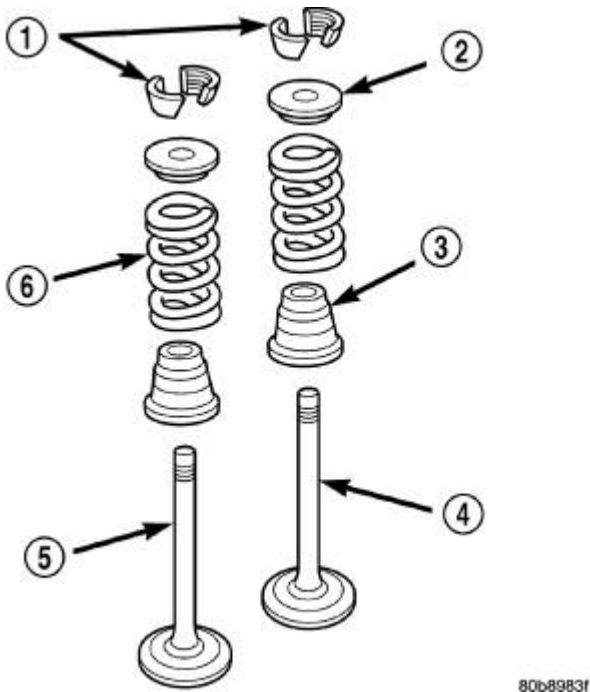

Fig. 72: Valve Assembly Configuration
5. Release the valve spring compressor and make sure the two spring retainer halves and the spring retainer are fully seated. Refer to **Fig. 72**.